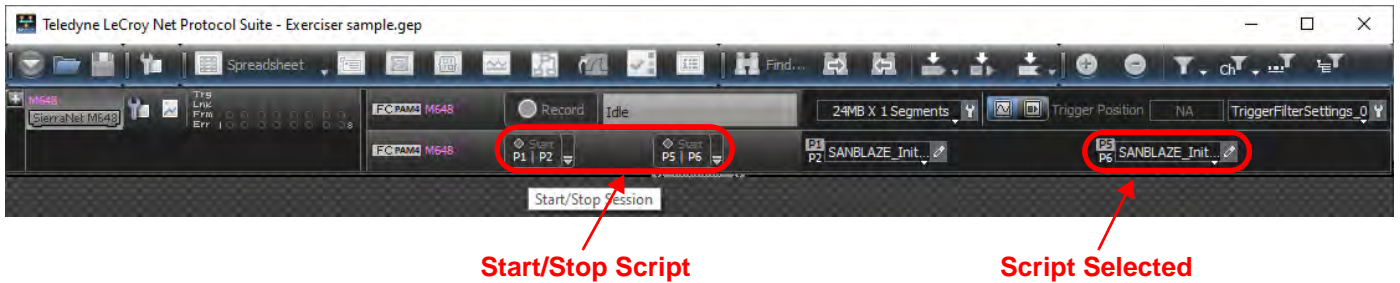

Figure 8.32: Script Selected
3. Select one of the available scripts, then click the respective port **Start** button to execute the script. See Figure 8.32.